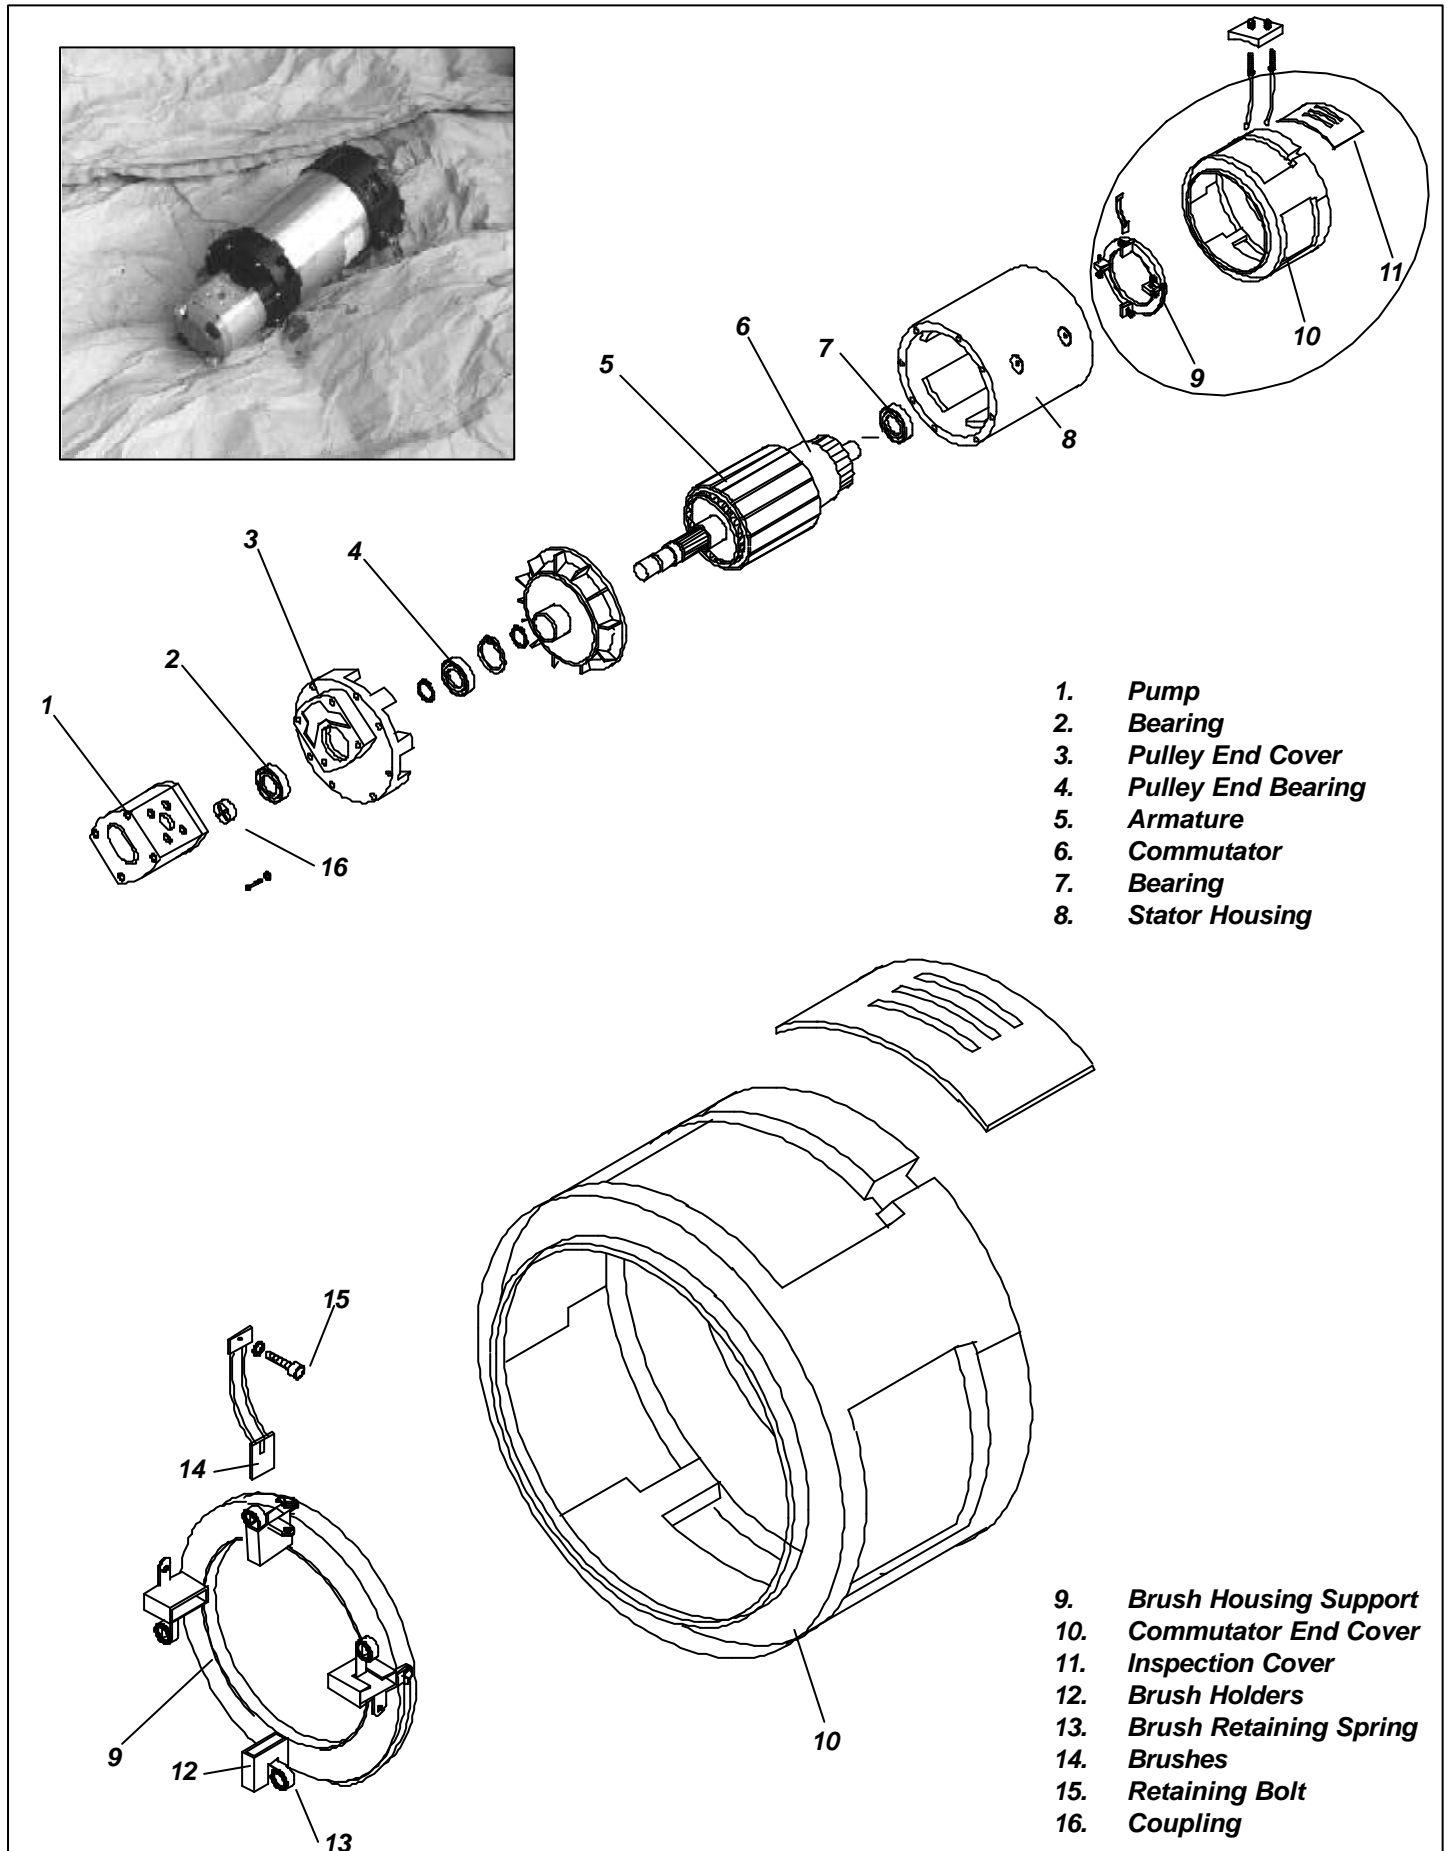

Figure 4-13: Electric Motor Assembly
4.11 Electric Motor (Figure 4-13)